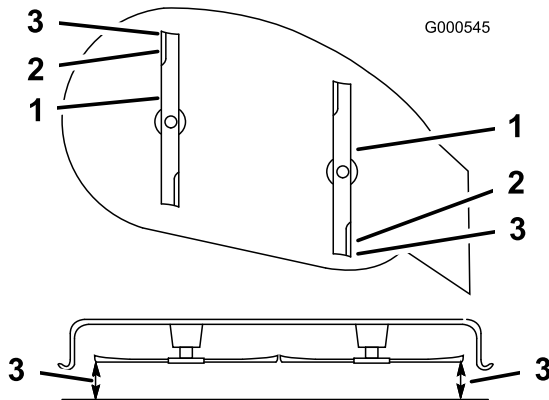

Figure 44
- Set the height-of-cut at position **D** [3 inch (76 mm)] and carefully rotate the blades so they are facing front to rear (Figure 44).
6. Measure from the tip of the front blade to the flat surface and the tip of the rear blade to the flat surface (Figure 44). If the front blade tip is not 1/16-5/16 inch (1.6-7.9 mm) lower than the rear blade tip, adjust the front locknut.
is 1/16-5/16 inch (1.6-7.9 mm) lower than the rear blade tip (Figure 44).